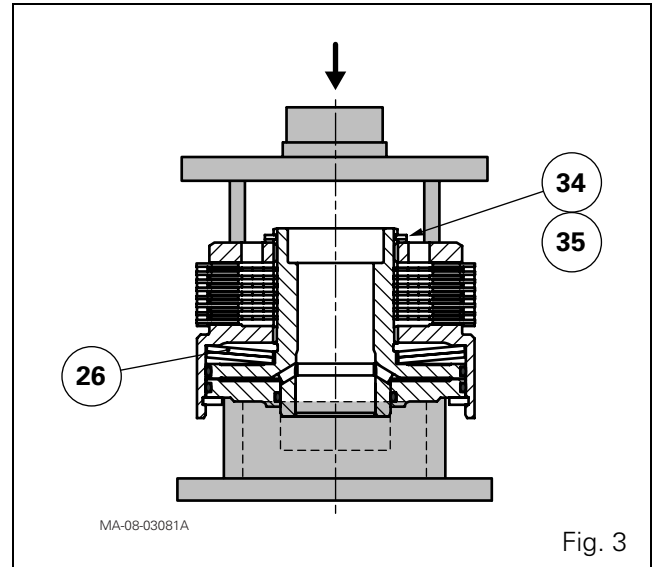

Fig. 3
30. Detach the bell gear (10) from the clutch assembly (15).
31. Remove the circlip (38). Remove the piston (39).
32. Remove the "O" rings (24) (40).
33. Using a suitable fixture and a press, compress the Belleville washers (26) (Fig. 3).
34. Take off the circlip (34) and shim(s) (35) (Fig. 3).
35. Remove the fixture. Remove the cover (29), discs (36) and intermediate plates (37).
36. Separate the hub (30) from the bell housing (23).
37. Remove the "O" ring (25).
38. Remove the Belleville washers (26).
3. Remove screws (9) from the upper arm pins and extract pins (8) using a suitable extracting tool inserted into the threaded hole provided in the pin for this purpose (Fig. 3).